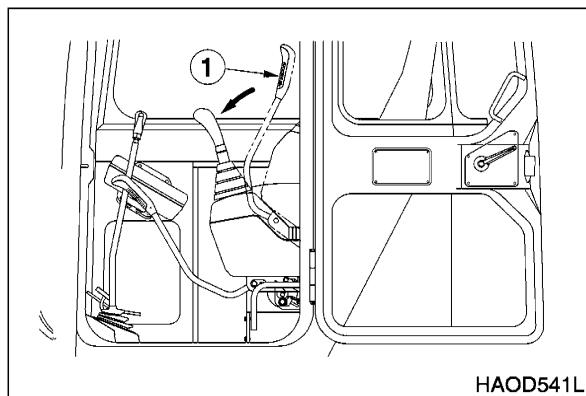

Figure 20
3. Set safety lever (1, Figure 20) on "UNLOCK" position